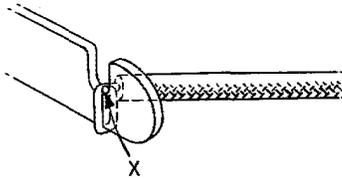

Fig. 4 – Termination of Wire on Protector (Notch on Upper Side of Terminal)
8.05 To terminate a wire on the terminal of a protector where the notch appears on the upper side of the terminal, as shown in Fig. 4, bring the wire through the notch, down the front side, and up the rear side, making one complete turn of bare wire around the terminal. Break the excess wire at point "X". 20-gauge wire should be cut instead of broken.